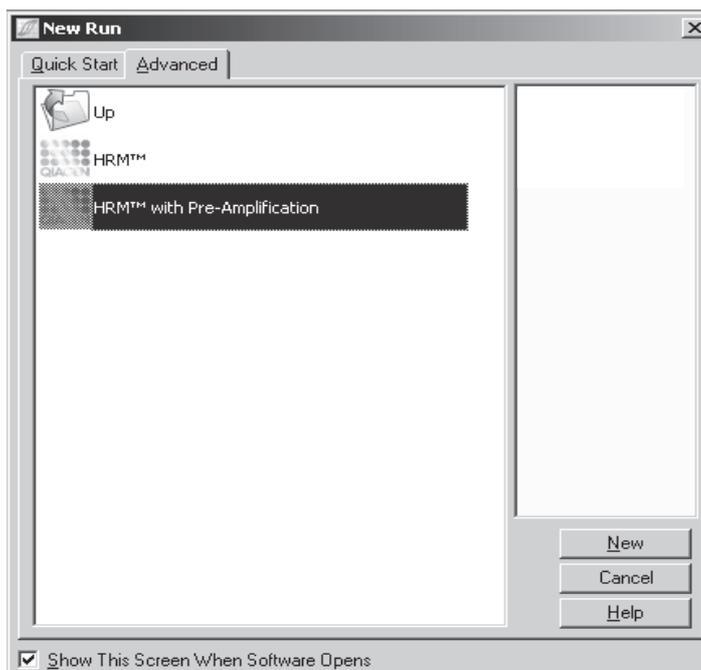

Figure 4. Choosing the protocol file.
2. Open the ready-made protocol file “Rotor-Gene Type-it HRM Discovery Kit.ret” by double-clicking on it. Alternatively, open the Rotor-Gene Q software and select the “HRM” folder in the advanced tab of the wizard. Choose the protocol folder entitled “HRM with Pre-Amplification” and click on “New” (Figure 4).